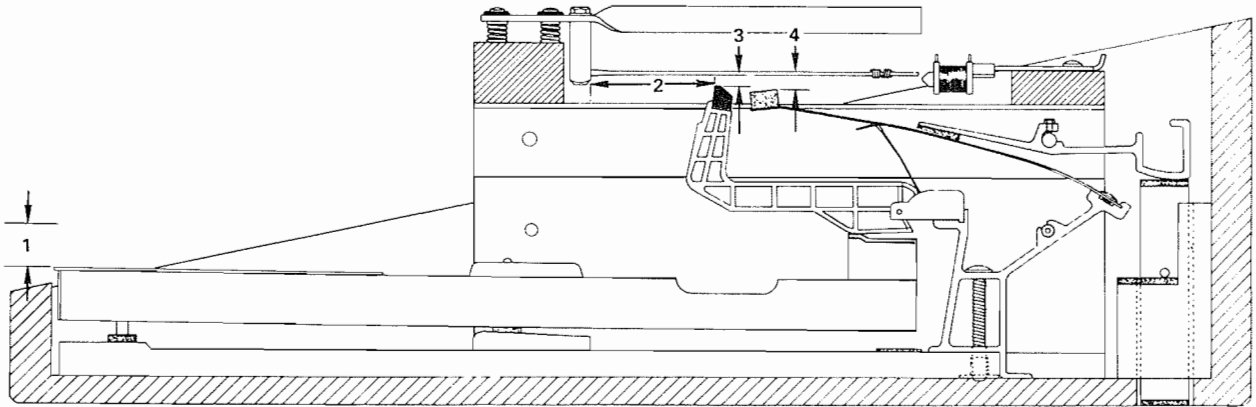
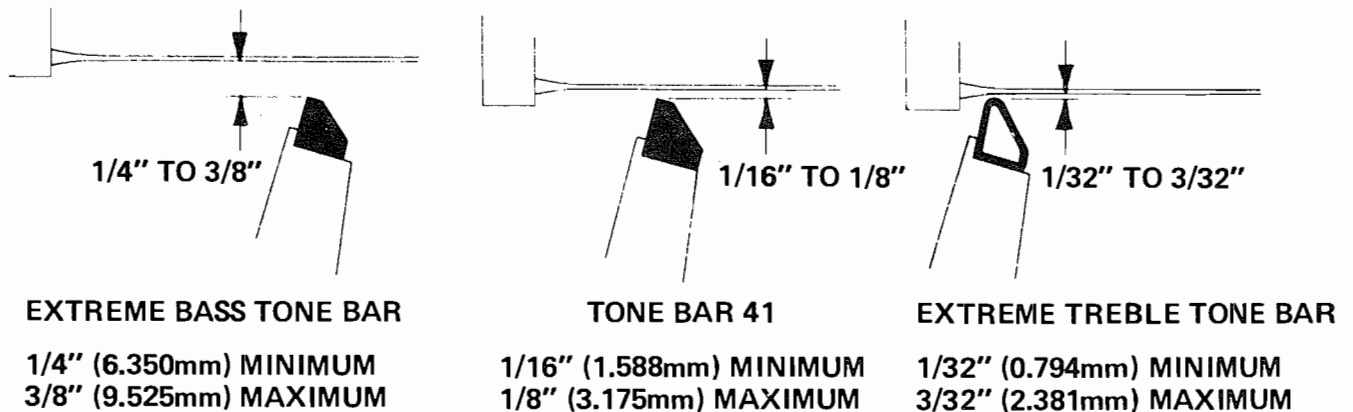

Figure 4-1. RHODES Modular Action — Single Key Depressed
Figure 4-2. Escapement Distances
1. Key Dip. The distance of downward travel of the Key Front (Figure 4-1, 1) is called "Key Dip." This dimension should be $\frac{3}{8}'' \pm \frac{1}{32}''$, that is, from $\frac{11}{32}''$ to $\frac{13}{32}''$ (9.525 ± 0.794mm or 8.731mm to 10.319mm).
2. Escapement. The gap remaining between the Hammer Tip and the Tine (Figure 4-1, 3) with the Key depressed is called "Escapement". This Dimension varies from the extreme Bass (left) Tone Bar to the extreme Treble (right) Tone Bar and should be as follows (Figure 4-2).
the Damper is at the point of maximum Clearance (Figure 4-1, 4) allowing the Tine to vibrate unimpeded. Damper Clearance should be 3/8" to 1/2" (9.525mm to 12.700mm).
Proper Striking Line is assured by setting the Harp in such a way as to arrive at an approximate dimension of 2-1/4" (57.150mm) between the leading edge of the Hammer Tip and the leading edge of the Tone Generator (Figure 4-1, 2). This dimension should be taken at the extreme Bass (left) Tone Bar. At the extreme Treble (right) Tone Bar, this dimension is approximately 1/8" (3.175mm).